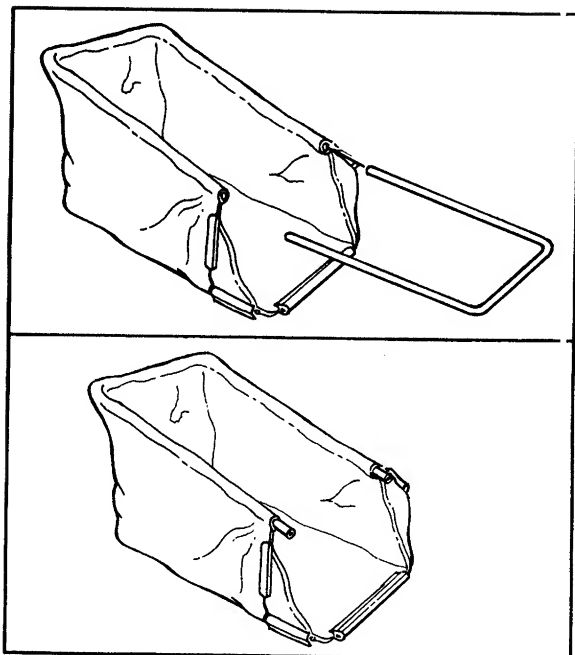

FIGURE 9.
1. Insert one end of the rear frame into the cloth channel on the edge of the grass bag. See figure 9. ←